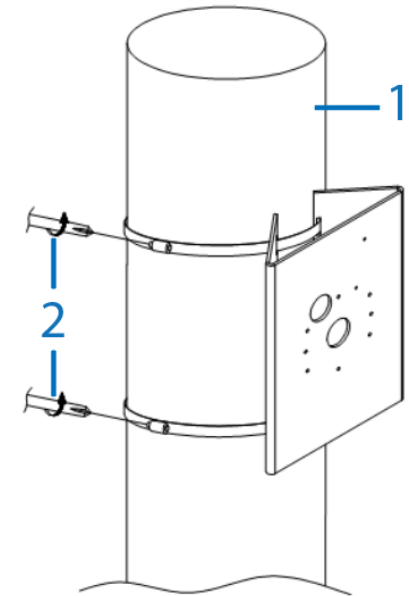

Figure 5
A. Expand the two metal straps around the pole (1) (Figure 5).
C. Use a flat head screw driver (2) (Figure 5) and rotate the two screws on both metal straps until the mount is securely attached to the pole.